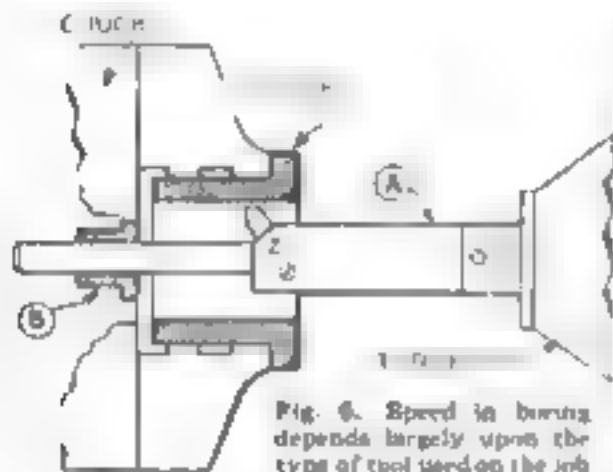

Fig. 6. Speed in boring depends largely upon the type of tool used on the job.
"As a general thing, the size and rigidity of the boring tool determines the feed and speed that can be used with safety. A piloted boring bar like that at A in Fig. 6, having a pilot supported by a bushing (B) in the chuck (Continued on page 189)